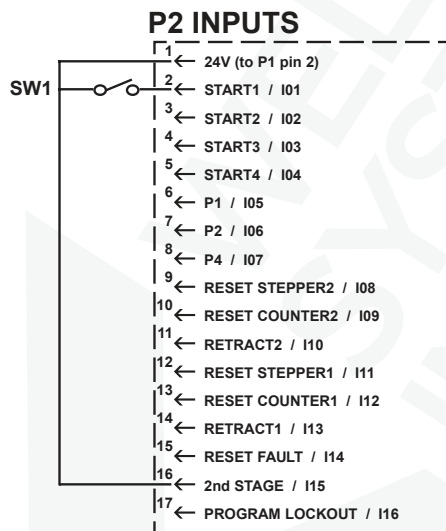

Figure 9-1. Initiation switch connection
1. Connect initiation switch SW1 to connector P2 as shown in Figure 9-1.